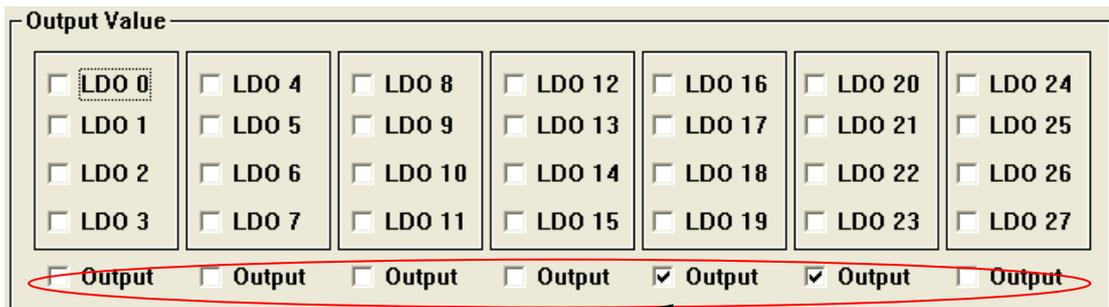

Figure 4-6.1
(1) Set local digital output (as shown in Figure 4-6.1)
(2) Set local digital output enable (as shown in Figure 4-6.1)